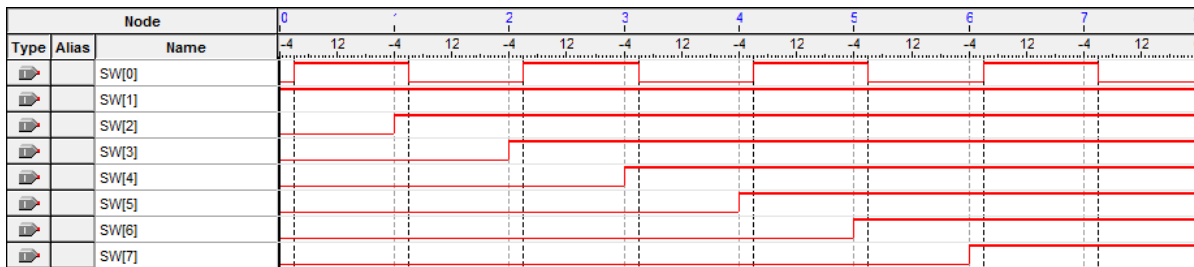

Figure 23. Possible waveforms that could result when using the Segmented Acquisition mode.
5. Go back to the SignalTap II window and click **Processing > Run Analysis**. Now, flip SW[0] up and down, and in between flips change the values of the other 7 switches. After you have done this 8 times, the values in the buffer will be displayed in the data window, and this will display the values that the 8 switches were at around each trigger. A possible waveform is presented in Figure 23. This resulted from the user flipping up one more switch between each flip of SW[0].